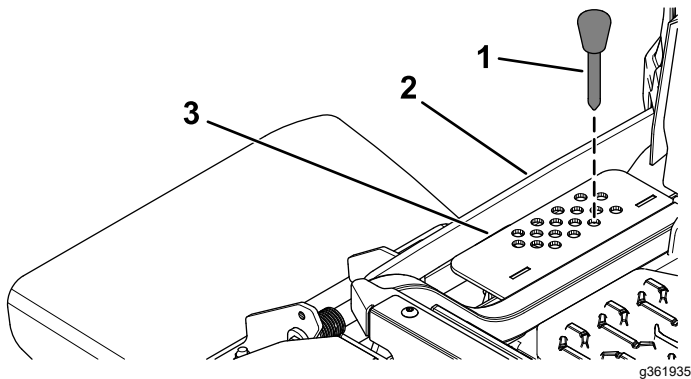

**Figure 32**
1. Push up on the deck-lift switch (Figure 32).